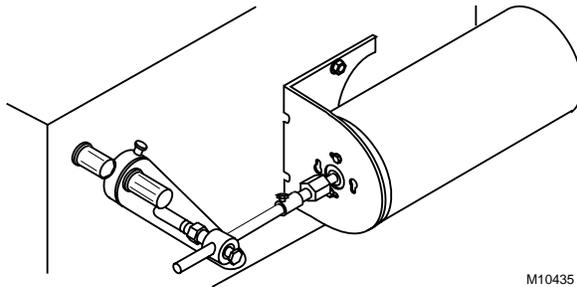

Fig. 6. External Mounting with Angle Bracket.
- g. Secure linkage to actuator and damper drive axle (see Fig. 6).